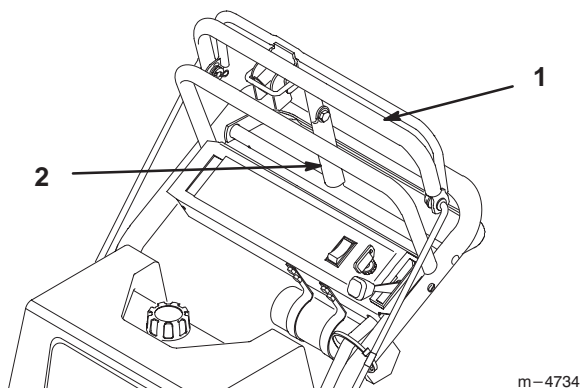

Figure 13
1. Pull the upper control bar (Fig. 13) rearward and hold it in this position.
2. Lift the parking brake lock (Fig. 13) up and gradually release the upper control bar. The brake lock should stay in the set (locked) position.
1. Pull rearward on the upper control bar (Fig. 13). Lower the parking brake lock to the released position.